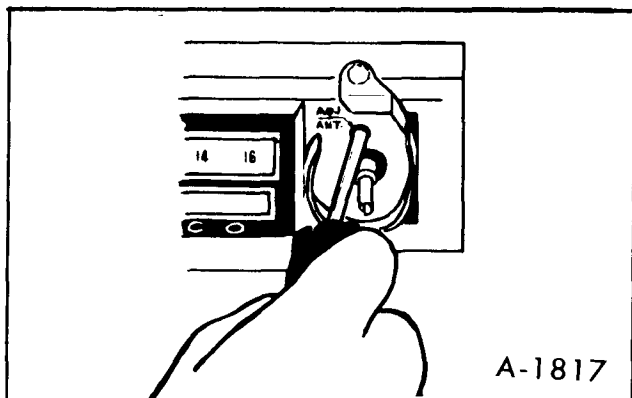

Figure 48—Antenna Trimmer Adjustment
3. Adjust antenna trimmer, located behind right control knob ring, for maximum volume. Access to antenna trimmer is gained by removing right control knob and ring and inserting screwdriver to adjust screw (figure 48).